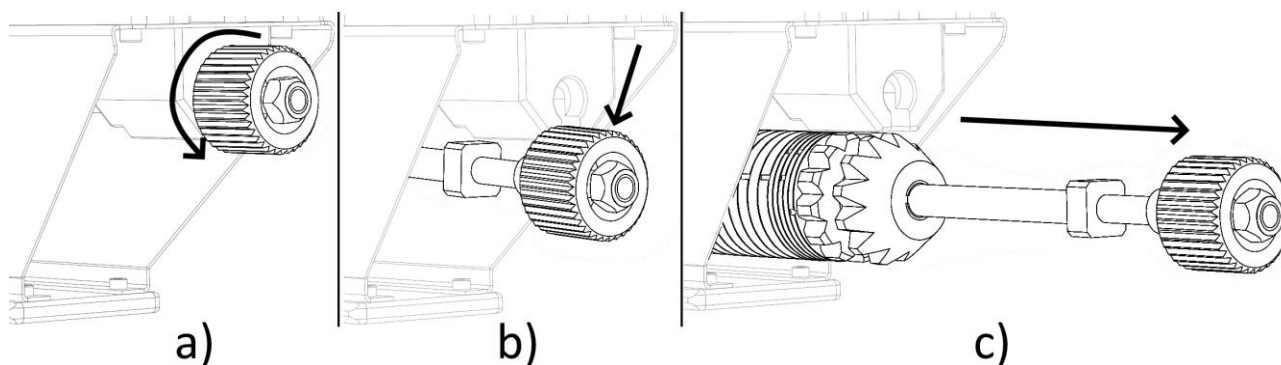

Fig. 3 - Ballast removal
- a) Turn the knob anticlockwise - Fig. 3